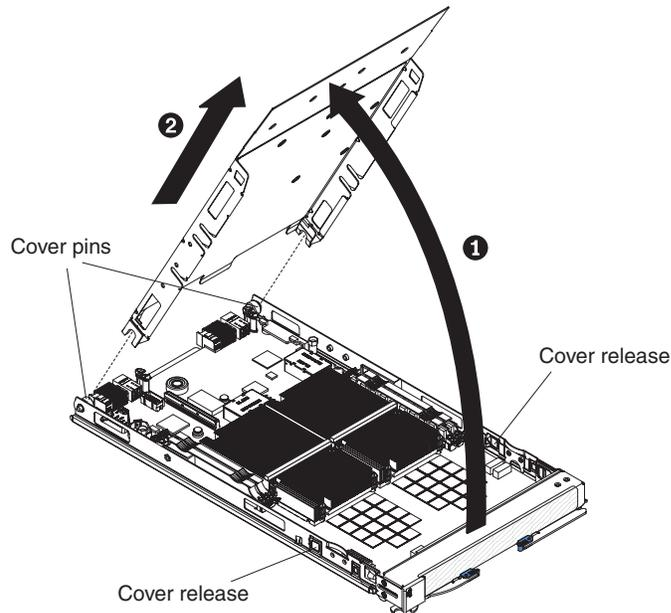

Figure 6. Opening the blade server cover
3. Press the blue blade cover release on each side of the blade server and lift the outer cover open (see Figure 6).
4. If you want to remove the cover, carefully lift it from the cover pins and set it aside (see Figure 6).